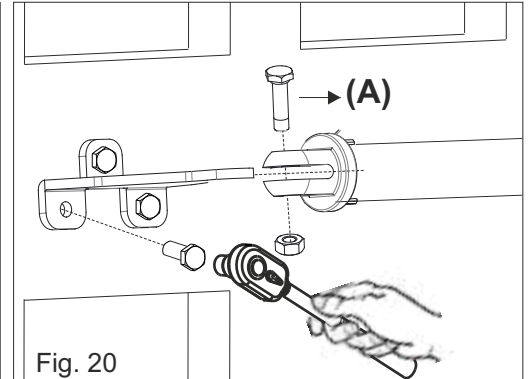

Fig. 20
- 3) Insert the bracket into the housing pin on the operator (Fig. 20) and tighten the «A» screw to max 8.5 Nm